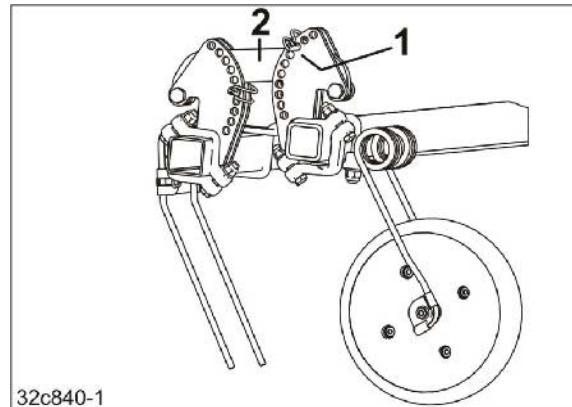

Fig. 3
1. Adjust the working depth of the harrow tines by removing the cap plug (Fig. 3/1) above the steering unit (Fig. 3/2), in all segments, in the same borehole.